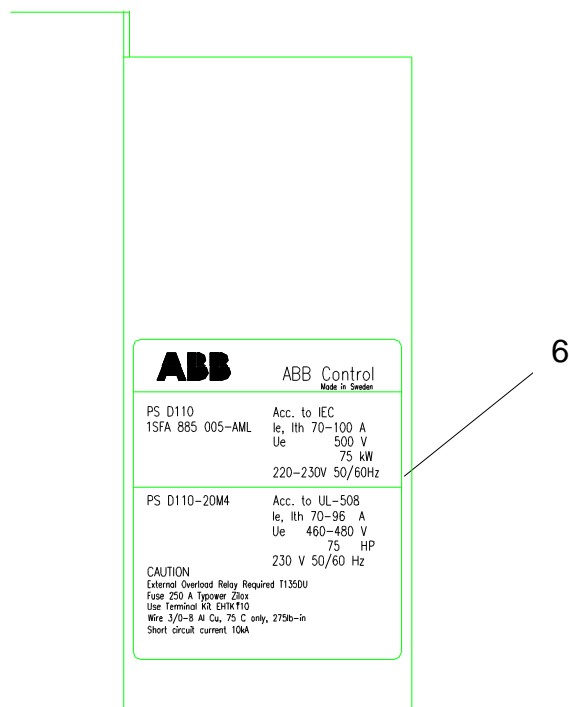

Fig4.
- Change the marking plate (6) (see fig 4).